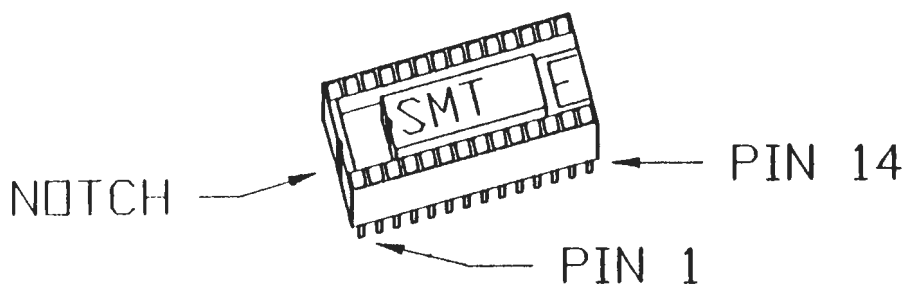

Figure 4
- 6) Look at the No-Slot Clock. At one end of the No-Slot Clock you will notice an indentation. This is the pin 1 end of the No-Slot Clock. At the other end of the No-Slot Clock you will notice a big "E". This is the pin 14 end of the No-Slot Clock. DO NOT MIX UP PIN 1 WITH PIN 14. See figure 4 for a drawing of the No-Slot Clock pin 1 position.